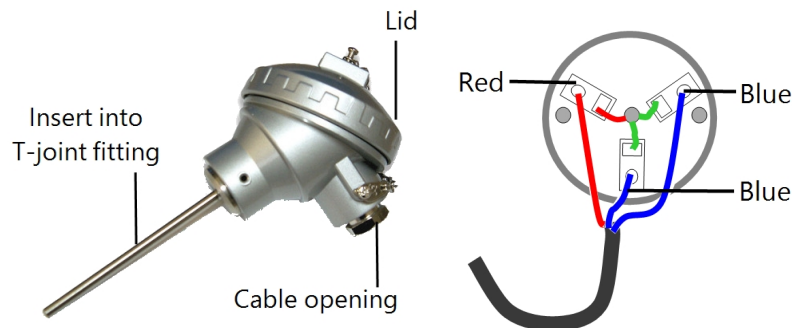

Figure 4: Sensor interfaces
4. Connect the sensor cable to the sensor See *Figure 4*.